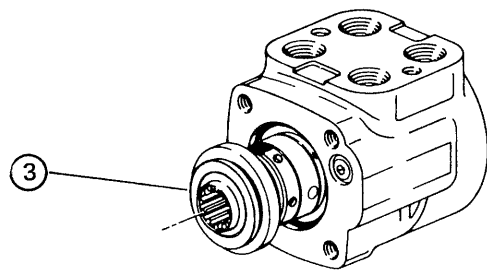
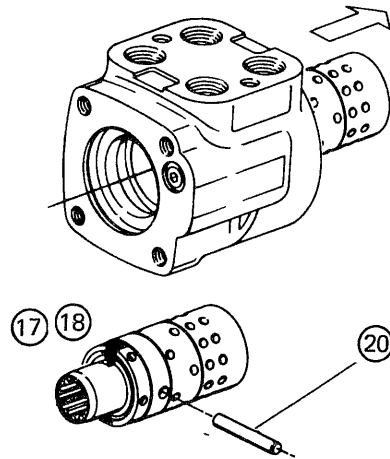

Fig. 131
Fig. 134
- (12) Turn spool-sleeve assembly (17) (18) until pin (20) is in horizontal position (Fig. 125). Then push spool-sleeve assembly (Fig. 134) by thumb and separate seal grand bushing (3) from housing (Fig. 131, Fig. 134).
- (16) Pull off spool-sleeve assembly (17) (18) from housing as shown (Fig. 134) while slowly turning the assembly clockwise and counterclockwise.
- (17) Remove pin from spool-sleeve assembly (17) (18) (Fig. 134)